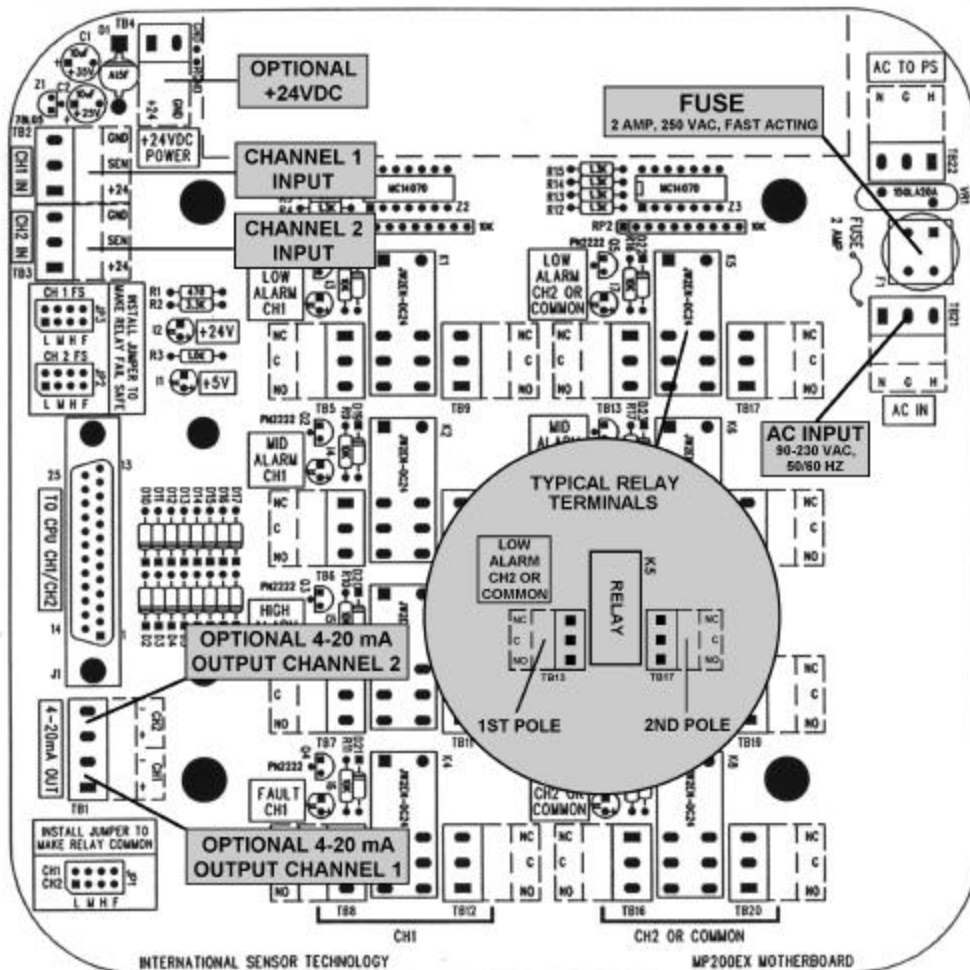

Figure 9: MP-220EX Motherboard Layout
- 1) Make sure the fuse is not blown (see Figure 3). If it is, replace it with a 2 Amp (MP-202) and or 4 Amp (MP-204 and MP-24), 250VAC fast acting fuse. (MP-220EX see Figure 9)